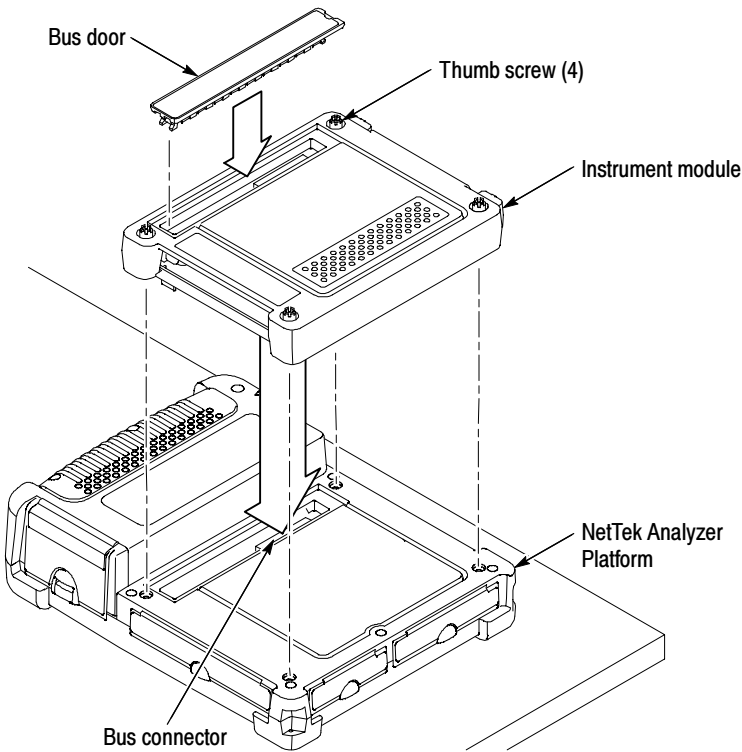

**Figure 1-2: Install instrument module**
Use the following procedure to install an instrument module onto the rear of the NetTek Analyzer Platform or to attach one module onto another. Refer to Figure 1-2 throughout this procedure.
5. Carefully lower an Instrument module onto the NetTek Analyzer Platform or previously installed module to engage the bus connector. See Figure 1-2.
- 7. Locate the four thumb screws. See Figure 1-2.
Use the following procedure to remove an instrument module from the rear of the NetTek Analyzer Platform or to detach one module from another. Refer to Figure 1-2 throughout this procedure.